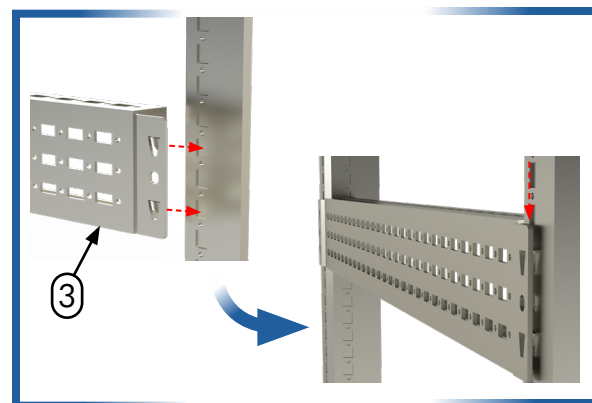

Figure 3
- Slide the profile downward until fully seated (Figure 3).